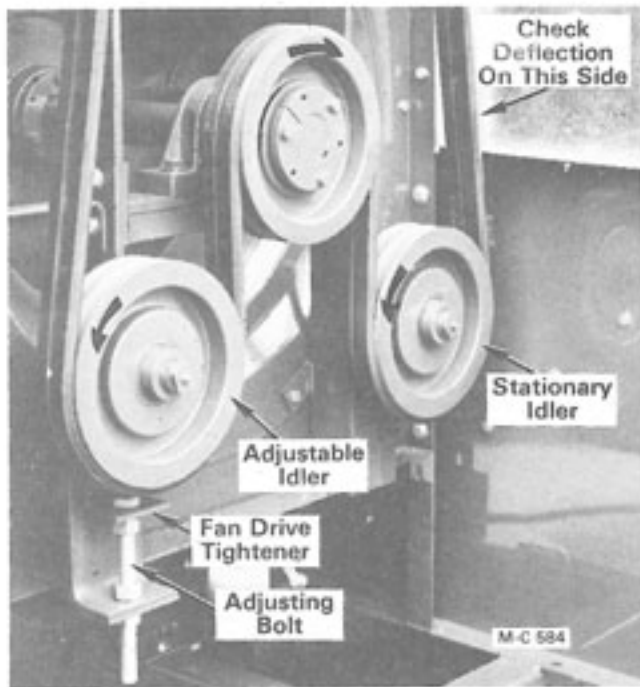

Figure 35 - PTO Fan Drive
2. Loosen the nut on the adjustable idler pulley shaft and the locknuts on the adjusting bolt, see Figure 35.
3. Turn the nut on the adjusting bolt to move the fan drive tightener and idler pulley down to increase belt tension, see Figure 35.